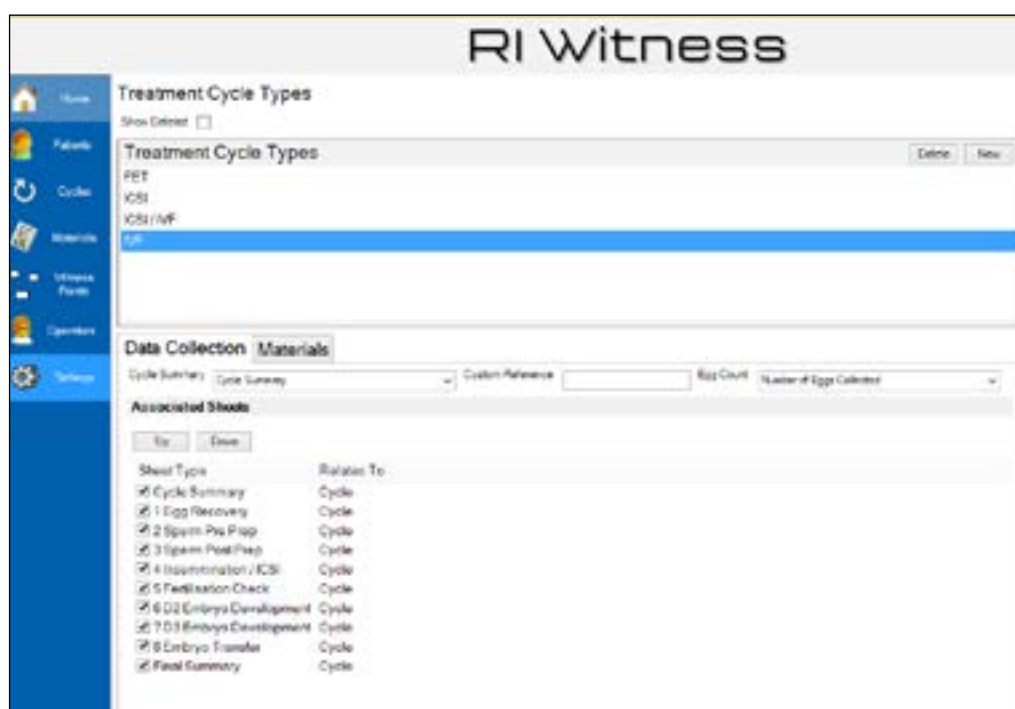

Figure 9-13 Use the checkboxes to associate sheets with the selected treatment cycle type
2. The Data Collection tab lists all available sheets. Check the boxes of those that are associated with the selected cycle type. See Figure 9-13.